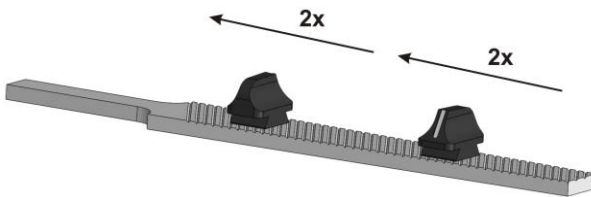
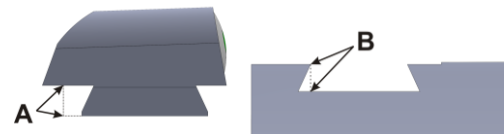

Figure 1
Figure 2
5. Using a fine file or emery paper on a flat surface, remove steel from the bottom of the sight until it will enter the dovetail halfway. (See Figure 1) Check the dovetail tips; if sharp, dull them. Do not file the dovetail (A) shorter than the depth (B) noted in Figure 2. If the sight still does not fit, but you have reached the minimum height, move to step 7; otherwise, skip to step 8.